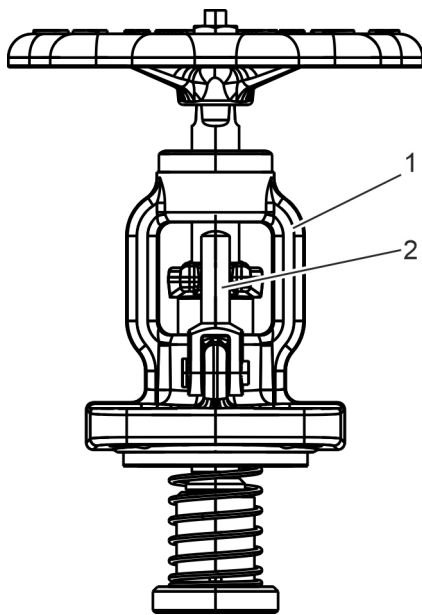

Fig. 14: Taking off the bonnet
- 11.** ▶ Detach the complete bonnet (Fig. 14/1) including the stem (Fig. 14/2) and gland packing from the body with the hoist.